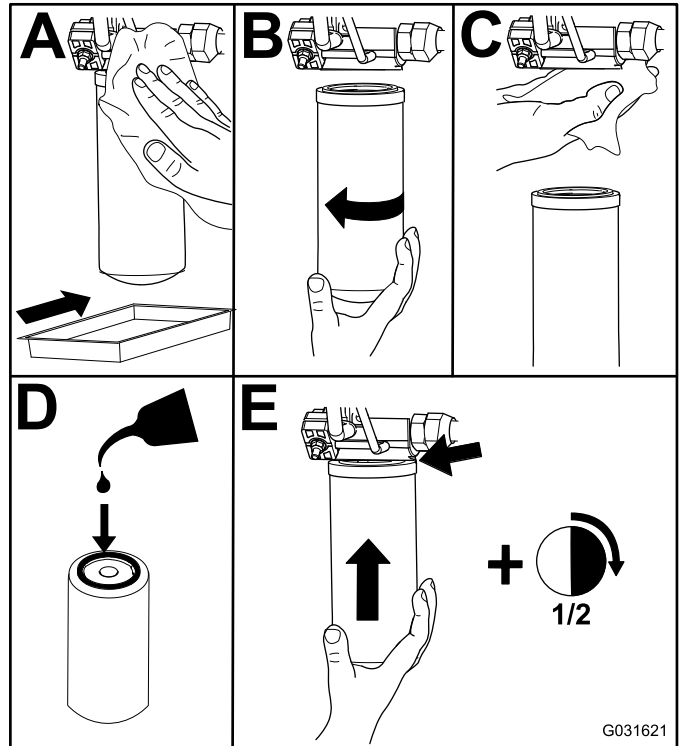

Figure 69
2. Replace the charge hydraulic filter at the hydraulic lift compartment as shown in Figure 69.
4. Replace the return filter at the right side of the machine (Figure 69).